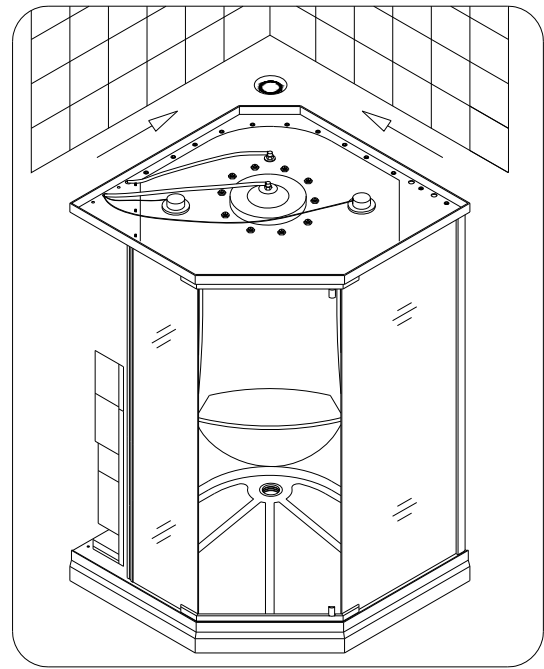

Fig 18
16. Move the shower cabin assembly to the required position. Fig 18.